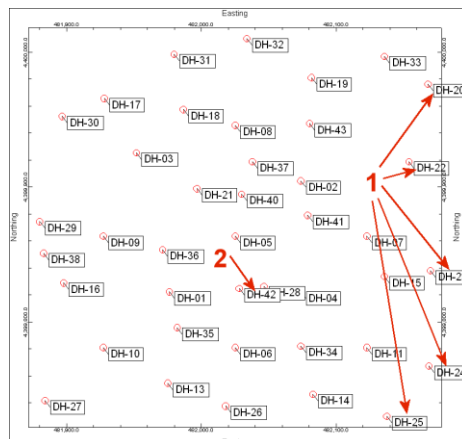

Figure 53
- Click the *Continue* button and notice that the map (Figure 53) has some undesirable “features”;